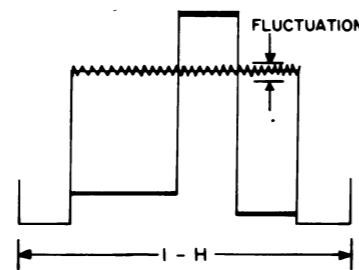

Figure 4-1. PVR501 Alignment
4) Adjust PVR501 to obtain a minimum fluctuation (A straight line) in figure 4-1.